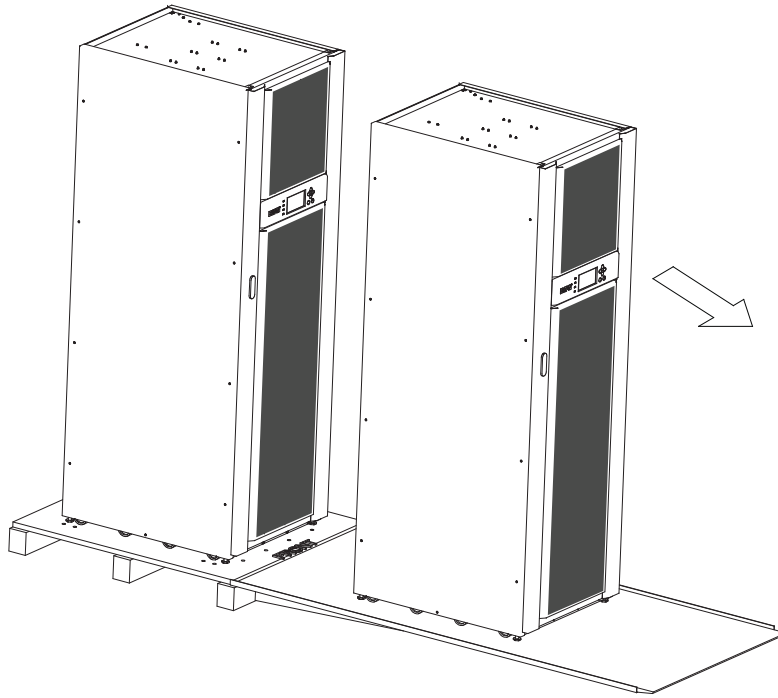

Figure 4-4: Rolling the cabinet down the ramp
6. Slowly roll the cabinet toward the front of the pallet. Continue rolling the cabinet down the ramp until the cabinet is clear of the ramp (see Figure 4-4).